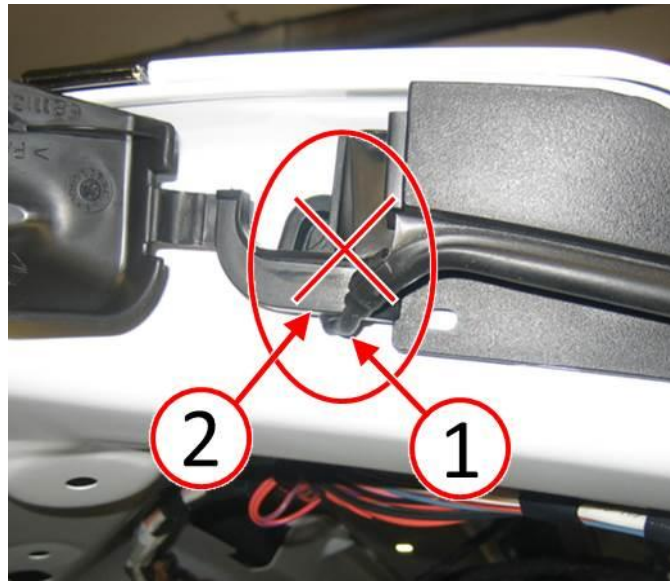

Fig. 2 Incorrectly Routed Wire Harness
3. Inspect the right side pinch sensor wire harness (1) for incorrect routing under the pinch sensor (2) as shown in (Fig. 2).
- a. Yes>>> the pinch sensor wire harness (1) is incorrectly routed under the pinch sensor (2) as shown in (Fig. 2). Proceed to Step #4.